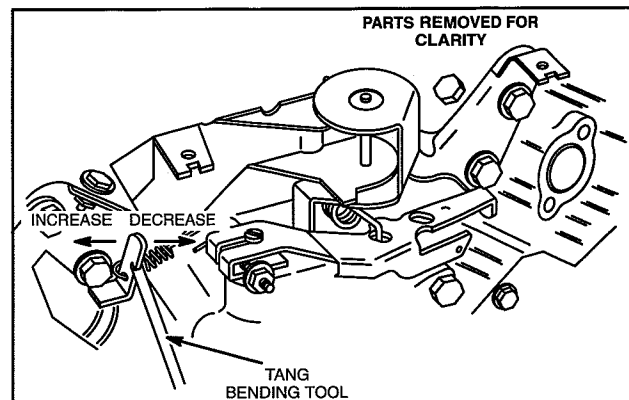

Fig. 144 – Adjust Governed Idle
8. If necessary, use tang bending Tool, #19352, and bend governed idle tang, (Fig. 144) to obtain RPM shown: